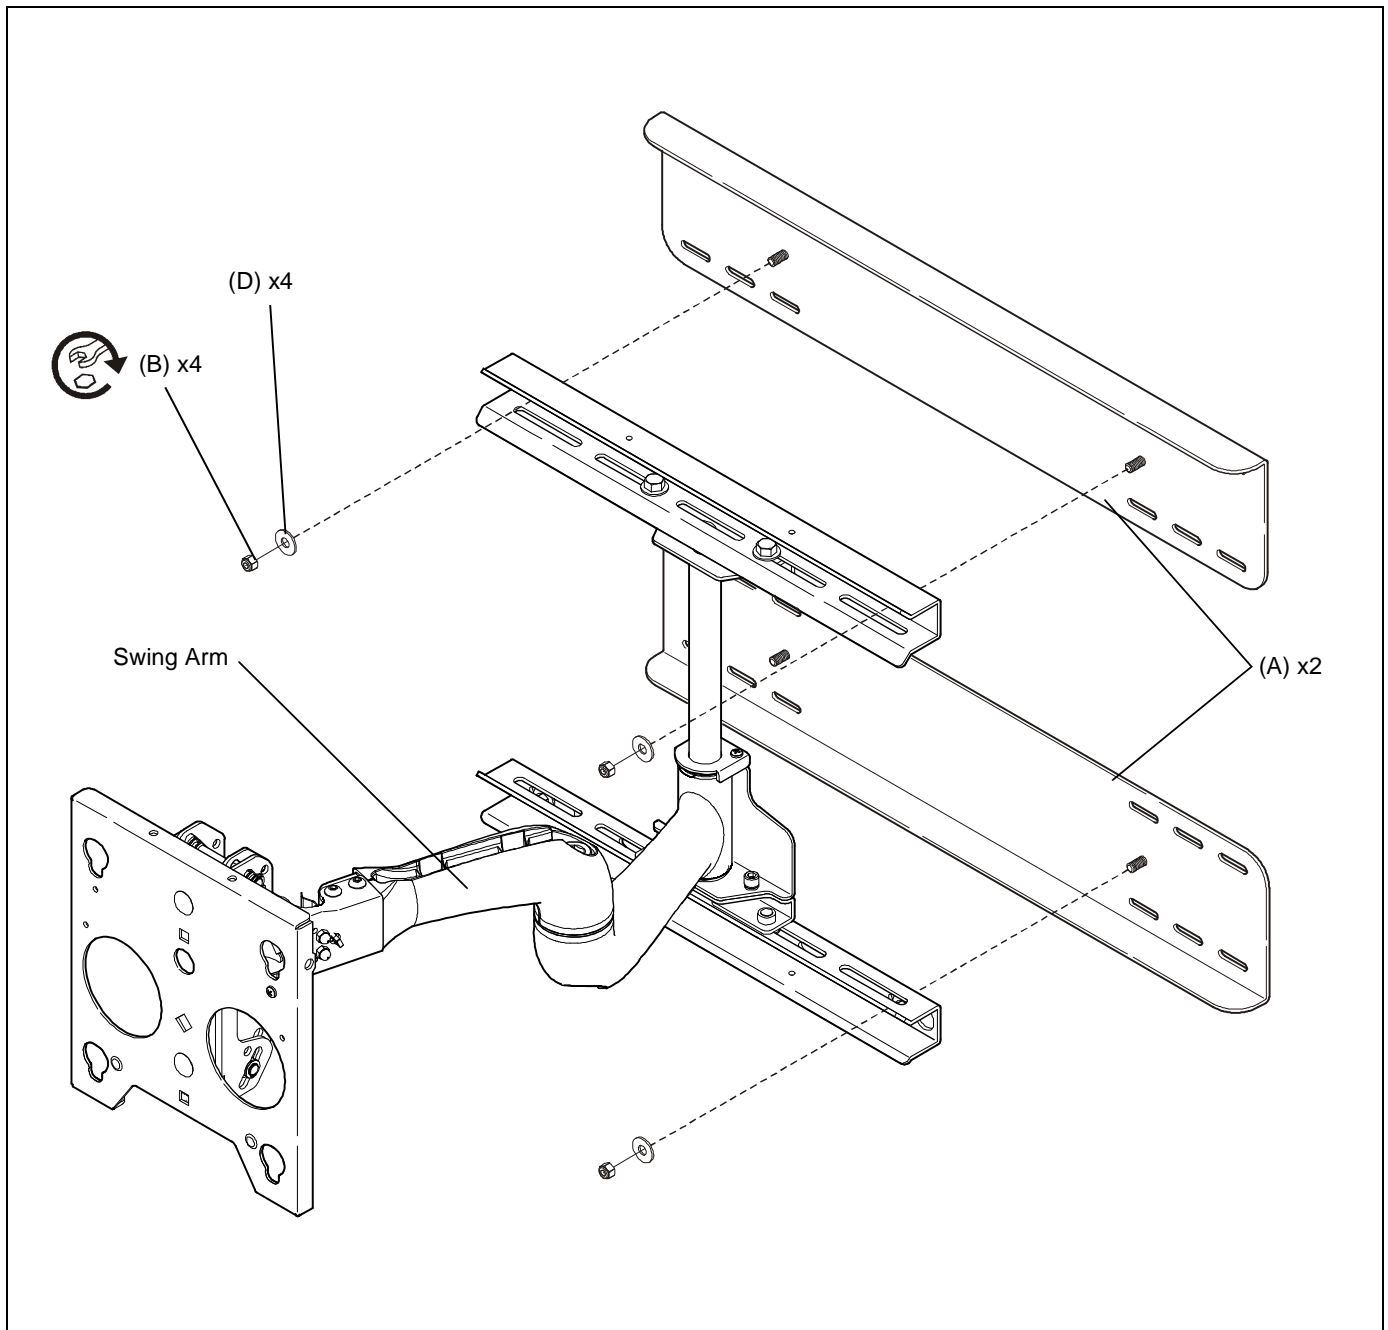

Figure 2
1. Orient swing arm and two wall plates (A) as shown in figure below. (See Figure 2)
2. Secure wall plates (A) to swing arm using four 5/16" flat washers (D) and four 5/16-18 lock nuts (B).